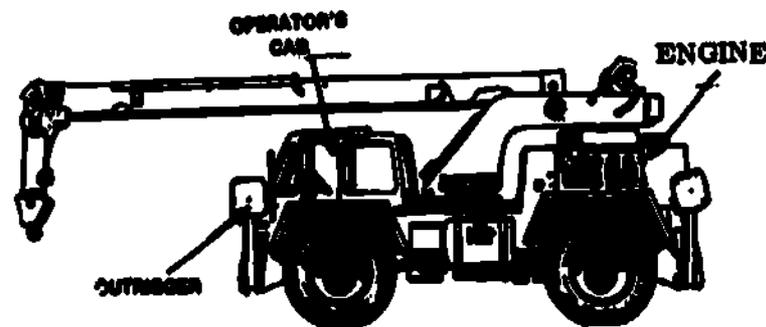

Fig 1-3. Wheel-Mounted Carrier.
- a. Wheel-mounted carrier components (fig 1-3). The wheels are powered by the same engine that is used for the crane and excavator. All three cranes and excavator have a 4-wheel drive capability. The three cranes have 4 wheel steering and the excavator has 2 wheel steering.